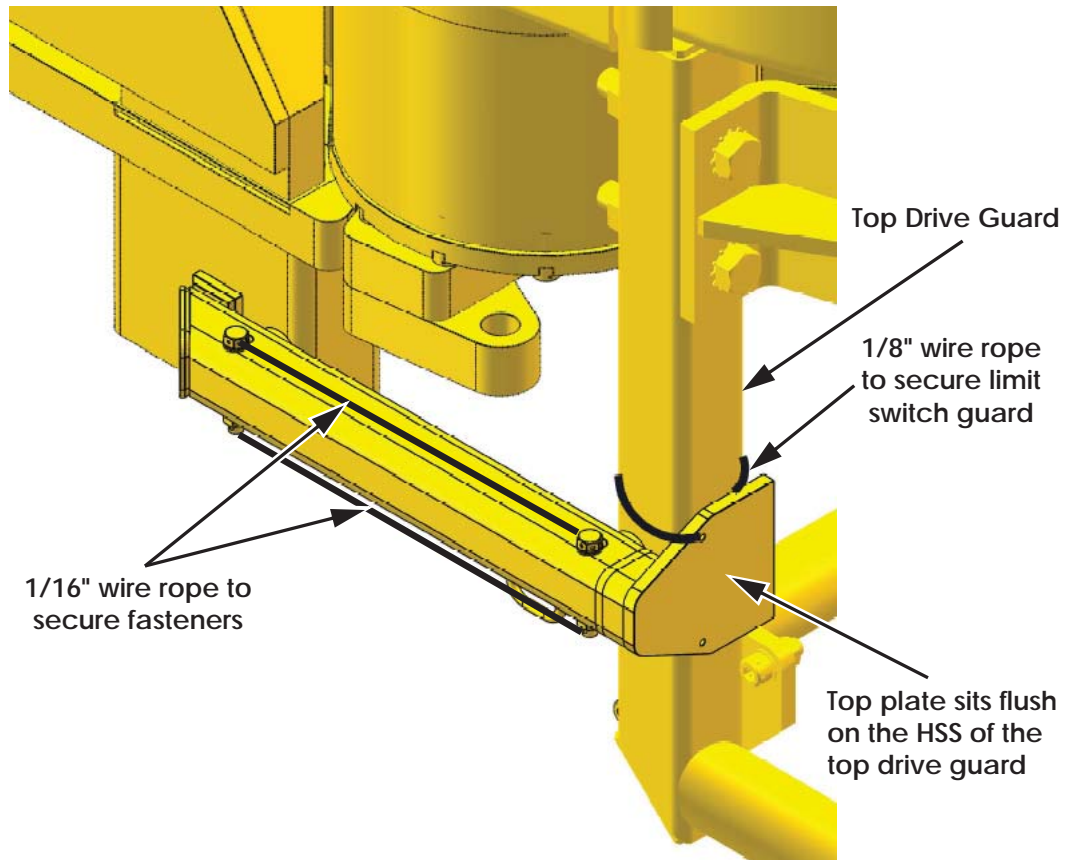

Figure 10: Modified limit switch guard securement
- 1a. Cut the HSS (Item 2, 2 X 2 X ¼") to the appropriate length so the top plate (Item 3) sits flush on the HSS of the top drive guard as shown in Figure 10 on page 7.
6. Mount the modified limit switch guard with the new fasteners (Grade 8 – 3/8" Hex head Capscrews 2 3/4" Long, 3/8" Lock Nut and Nord-Lock Washers). Use 1/16" wire rope to secure the fasteners. Use 1/8" wire rope to secure modified limit switch guard with top drive as shown in Figure 10.